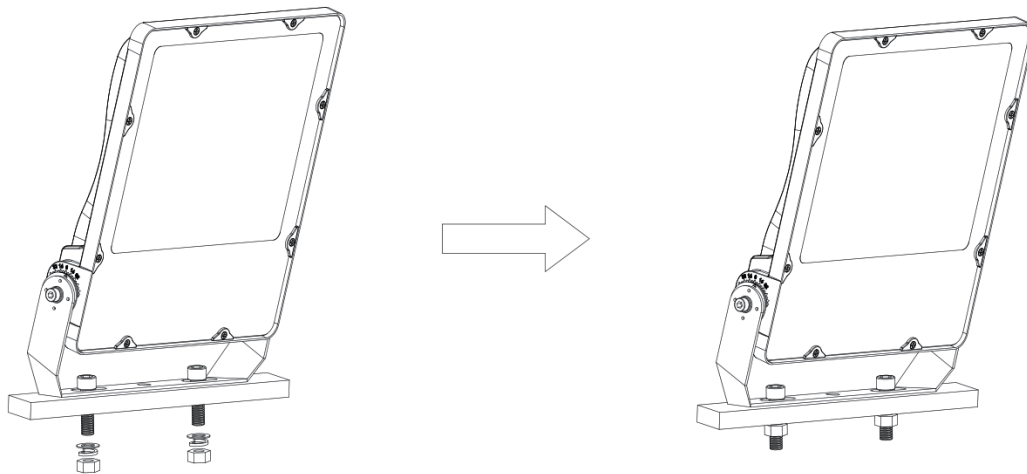

Figure 2. Install the LED floodlight and tighten the screws Figure 3. The LED floodlight is installed
- Insert the connected wires into the light pole, then align the LED floodlight with the hole and put it on the light pole, put on two M12*60mm screws, flat washers, spring washers and nuts, and tighten the screws with an Allen wrench and an open-end wrench. See Figure 2 and Figure 3.